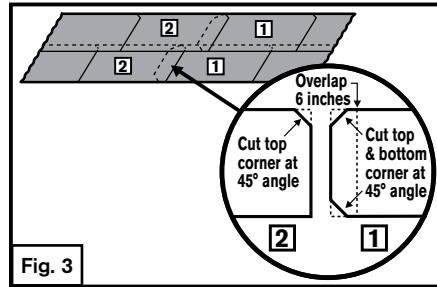

Fig. 3
**Step 8.** If additional pieces are needed to complete the starter course, the end lap to be overlapped must be cut at 45° angles on the top and bottom corners. See Fig. 3
The top corner on the piece that is overlapping the previous piece must also be cut on the top corner at a 45° angle. See Fig. 3
**Step 7.** The end of each roll of DeckSeal SA SBS Cap has a factory end lap selvage edge covered with a release film. Remove the end lap release film and press the overlapping sheet into place. See Fig. 3